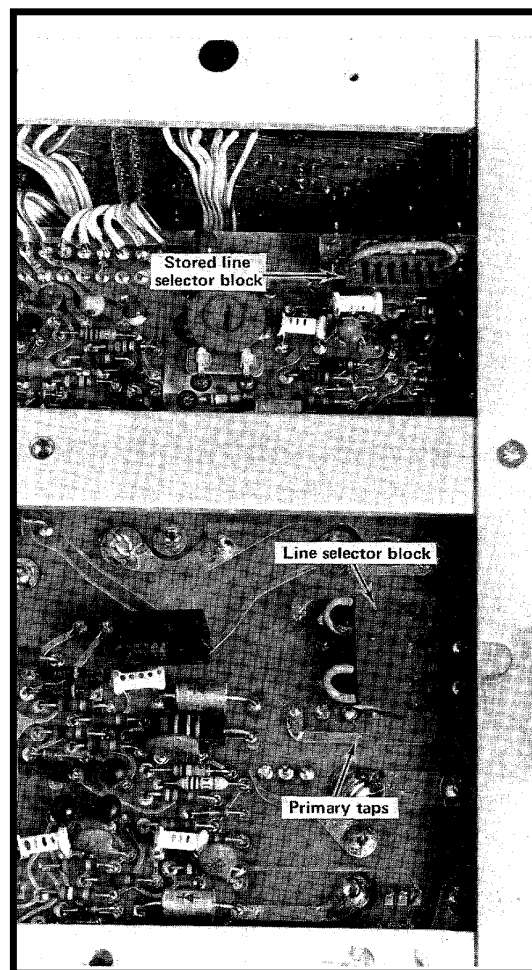

Fig. 0-1. Location of the line-selector block on the Power Supply circuit board.
3. To convert from 120 volts to 220 volts nominal line voltage, or vice versa, remove the line-selector block from the square-pin connectors (see Fig. 0-1) and replace it with the other block. Remove the line fuse from the fuse holder located on the rear panel of the display module and replace it with one having the correct rating. The unused line-selector block and line fuse can be stored on the Power Supply circuit board. Change the line-cord power plug to match the power-source receptacle or use an adapter.